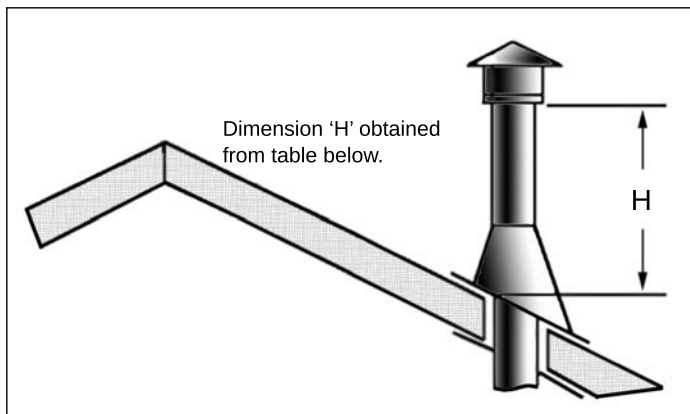

Figure 30: Height of Vertical Termination; Reference Table 5.
6. Once the pipe sections have been joined, and run up through the hole in the roof, slip an elbow strap over the exposed sections, bend the support straps outwards, and push the elbow strap down to the roof level, as shown in Figure 30. Tighten the clamp around the pipe section. Use a level to make sure the pipe is truly vertical. With roofing nails, secure the support straps to the roof. Seal the nails holes heads with non-hardening mastic. Trim the excess length of
7. Slip the flashing over the pipe section protruding through the roof. Secure the base of the flashing to the roof with roofing nails. Use a non-hardening sealant between the uphill edge of the flashing and the roof. Insure the roofing material overlaps the top edge of the flashing as shown in Figure 30. Verify that you have at least the minimum clearance to combustibles at the roof line.
9. Slip the storm collar over the pipe, and push it down to the top of the roof flashing as shown in Figure 30. Use the non-hardening sealant around the joint between the pipe and the storm collar.